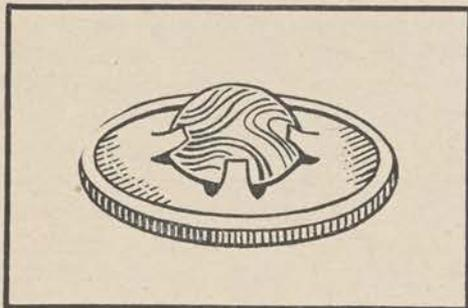

Figure 280.
b. Semiprecious stones or pebbles with unusual markings can be found in some localities. A thin coin about the size of a dime will make a setting for one of these if its center is cut out in a clover leaf pattern and the stone wedged firmly between the prongs thus formed (fig. 280). The cutting is done